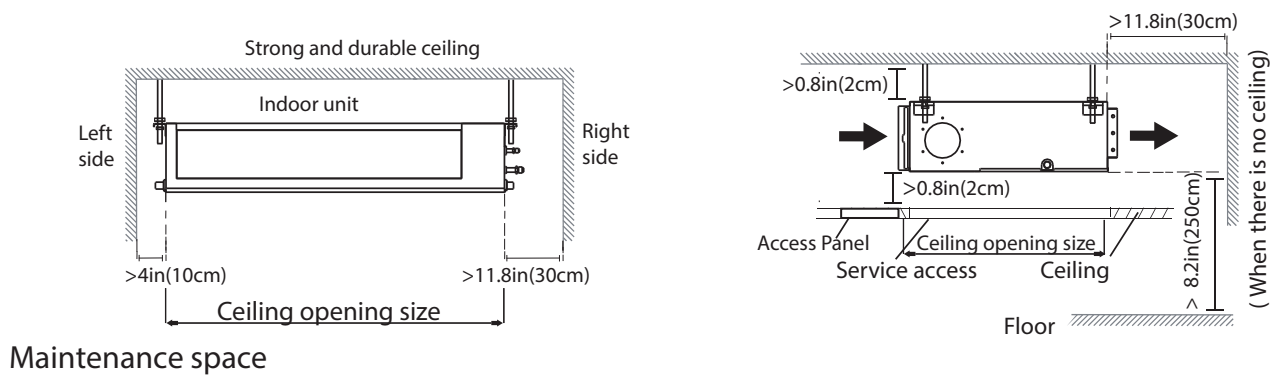

Fig. 7 — Installation Clearances
- Allow sufficient space for airflow and unit servicing. see Fig. 7 — on page 7 for the minimum required distances between the unit and the walls or ceilings.